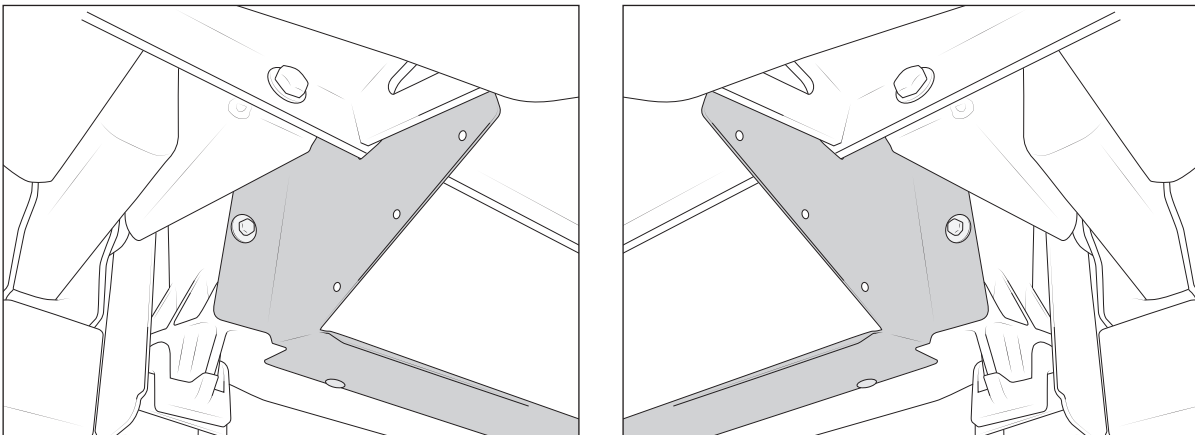

Figure 33
2. Attach AEV intercooler shroud to the intercooler at the two lower factory locations using the supplied hardware (fig. 33). Use the three factory push pins to secure the shroud along the bottom of the intercooler.